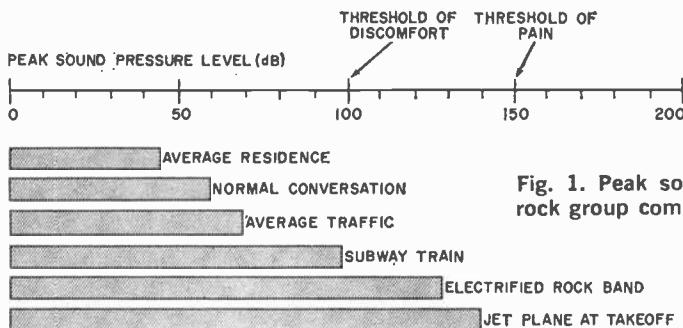

Fig. 1. Peak sound pressure level of typical rock group compared with other noise levels.
**Super-Amplified World of Rock.** Imagine being exposed continuously to the sound pressure levels created by a 100-piece military band playing fortissimo passages at close quarters, or the crescendo of street noises produced by a team of jack hammers operating simultaneously, or even the incessant roar of jet airplanes at a busy airport. The acoustic power generated by any of these sources roughly corresponds to the ultra-high levels associated with live rock groups aided by powerful amplification systems. In Fig. 1 is shown how other environmental noises compare with the high-intensity sound of a typical electrified rock band.